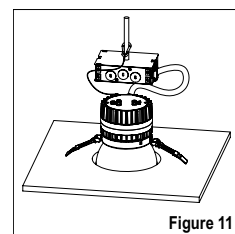

Figure 11
7. Once downlight is inside the ceiling and housing, release the spring clips and push the fixture up into the ceiling until securely fixed and flush with the ceiling (rotating the downlight may be necessary to properly engage the spring clips and ensure a secure fit). (See Fig. 11)